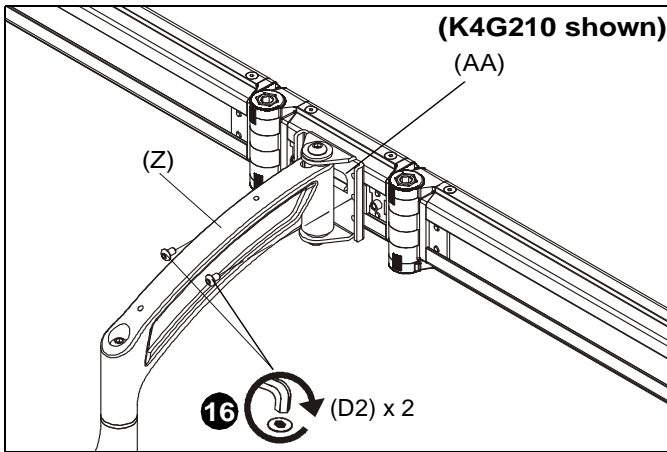

Figure 9
16. Use two #10-32 x 3/8" button head cap screws (D2) to secure column arm (Z) to array center (AA or BB). (See Figure 9)